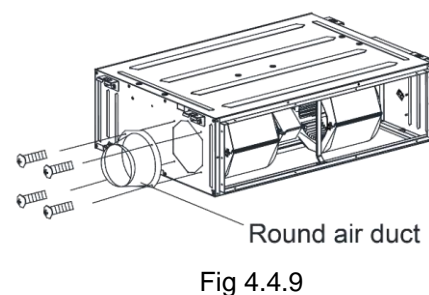

Fig 4.4.9
- (2) Install the round flange so that the fresh air duct can be connected as Fig 4.4.9.
- (3) Sealing and heat preservation should be done for both the air pipe and round flange pipe.
- (4) Fresh air should be treated via the air filter.